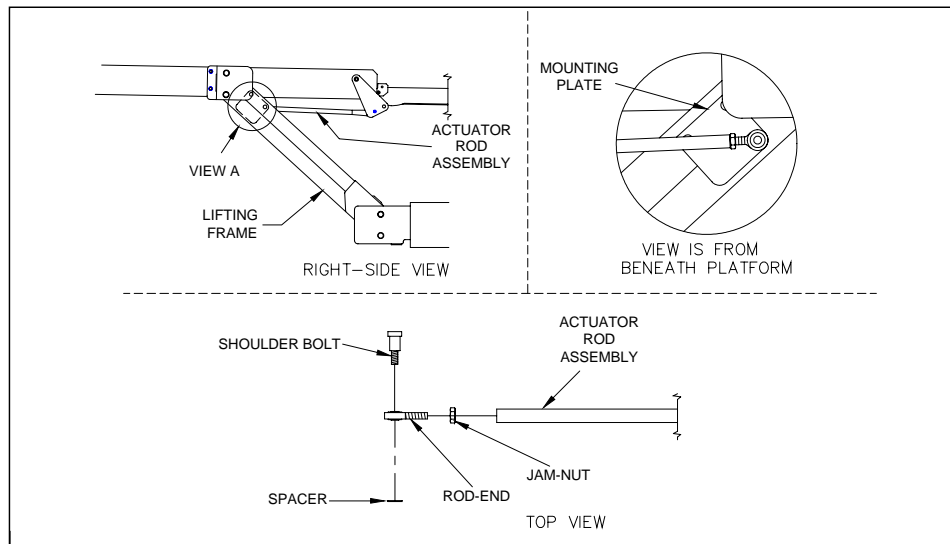

FIGURE 2-2: BRIDGEPLATE ACTUATOR ROD ASSEMBLY
- d. Refer to **Figure 2-2**. Locate rod-end portion of actuator rod assembly at right-side of platform (between junction of lifting frame and platform). Loosen rod-end jam-nut.